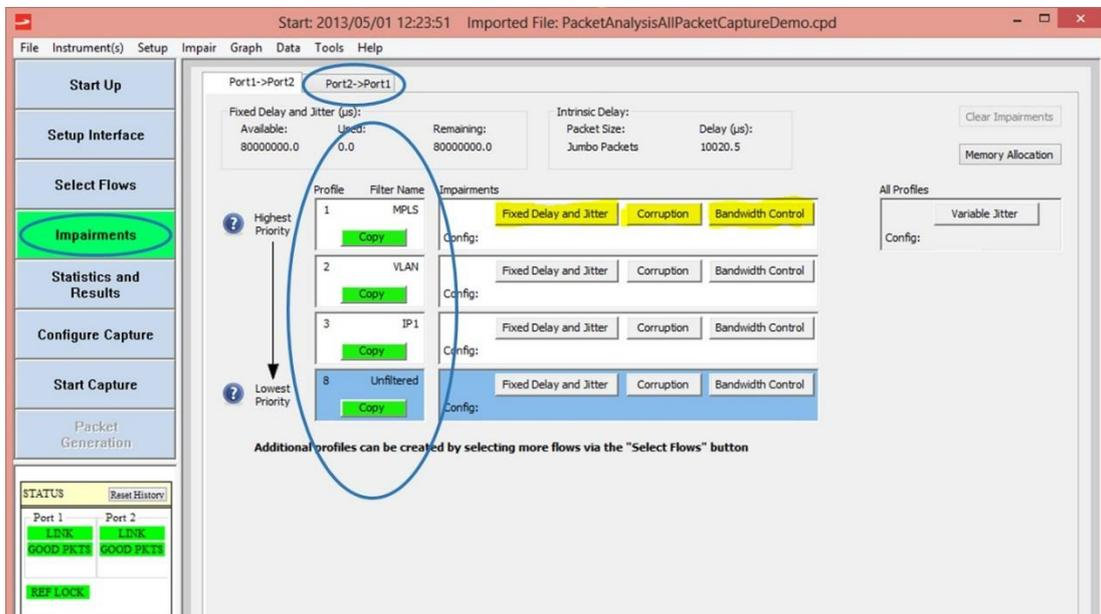

Figure 5.1 Impairments Summary View
Figure 5.1 below shows an example where 3 Profiles have been set up for traffic received at the Port 1. The Profiles are numbered 1 to 3 and the associated Flow Filters named as they were during set up in Flow Wizard. Profile 8 represents the remainder of the traffic received at Port 1 that does not match any of the Flow Filter criteria in Profiles 1 through 3.
Each Profile has a **Fixed Delay and Jitter**, **Corruption** and **Bandwidth Control** Impairment element (Profile 1 impairment elements are shown highlighted in yellow in Figure 5.1 below). These elements are used to configure the impairments and to indicate which impairments are enabled/active.
- In the Impairments Summary View (see Figure 5.1 for reference) click on the **Fixed Delay and Jitter** element in the Profile to be impaired. This gives access to the Impairment Setup View where various types of impairment are added as shown in Figure 5.2.
- In the Impairments Summary View (see Figure 5.1 for reference) click on the **Fixed Delay and Jitter** element in the Profile to be impaired. This gives access to the Impairment Setup View where various types of impairment are added as shown below. Note that Jitter is mutually exclusive with Variable Jitter and Profile Corruption impairments.